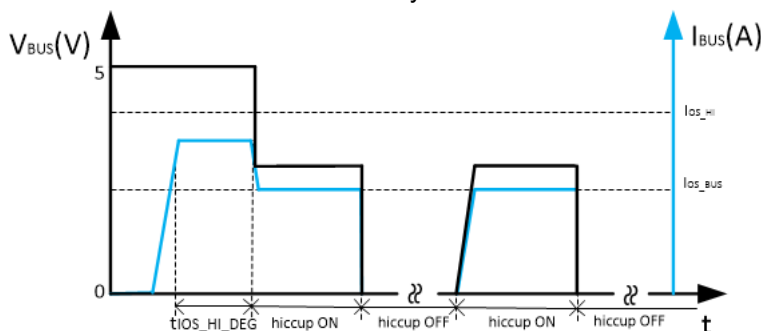

Figure 10-6. BUS Overcurrent Protection
- The second condition is the load current increases above I_{OS_BUS} but below the I_{OS_HI} setting. The device allows the USB port to output this large current for $t_{IOS_HI_DEG}$, without limiting the USB port current to I_{OS_BUS} . After the $t_{IOS_HI_DEG}$ deglitch time, device will limit the output current to I_{OS_BUS} and works in a constant current-limit mode. If the load demands a current greater than I_{OS_BUS} , the USB output voltage decreases to $I_{OS_BUS} \times R_{LOAD}$ for a resistive load, which is shown in Figure 10-6. If the overcurrent limit condition lasts longer than 4.1 ms, the corresponding USB channel enters hiccup mode with 524 ms of off-time and 4.1 ms of on-time. Another USB channel still works normally.